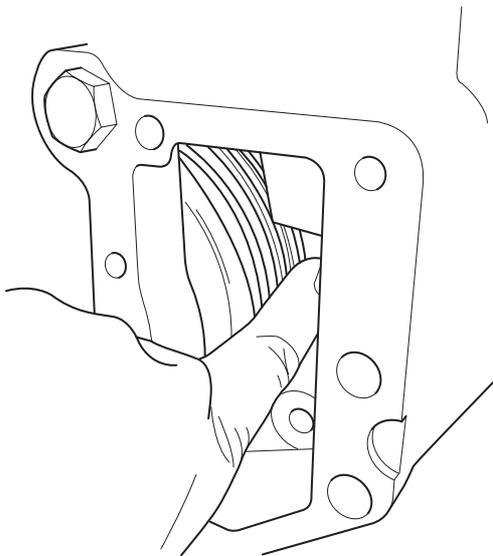

Fig 14.
- 7 After connecting both ends of the cable set the parking brake lever to the OFF (horizontal) position. Feel the edge of the brake pack plates. When the brake is released free play between the plates should be easily detectable → Fig 14. (□ D-21). If necessary adjust sleeve **13K** until the plates are free.